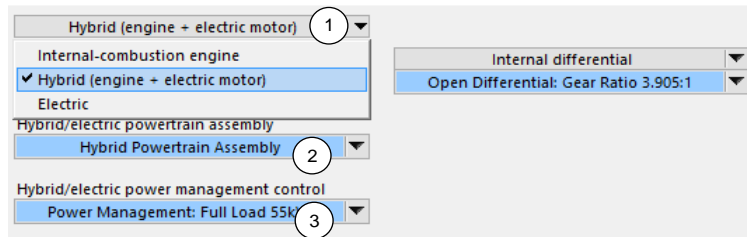

Figure 1. Select either internal-combustion, hybrid-electric or electric system (CarSim.)
The default powertrain is a minimal powertrain provided as a backup for the closed-loop speed controller. To install and use a full powertrain, link to a Powertrain dataset from the **Vehicle: Assembly** library in BikeSim/CarSim or a **Vehicle: Lead Unit** library in TruckSim. From the Powertrain screen, select one of three options (below) from the ring control ① (Figure 1):